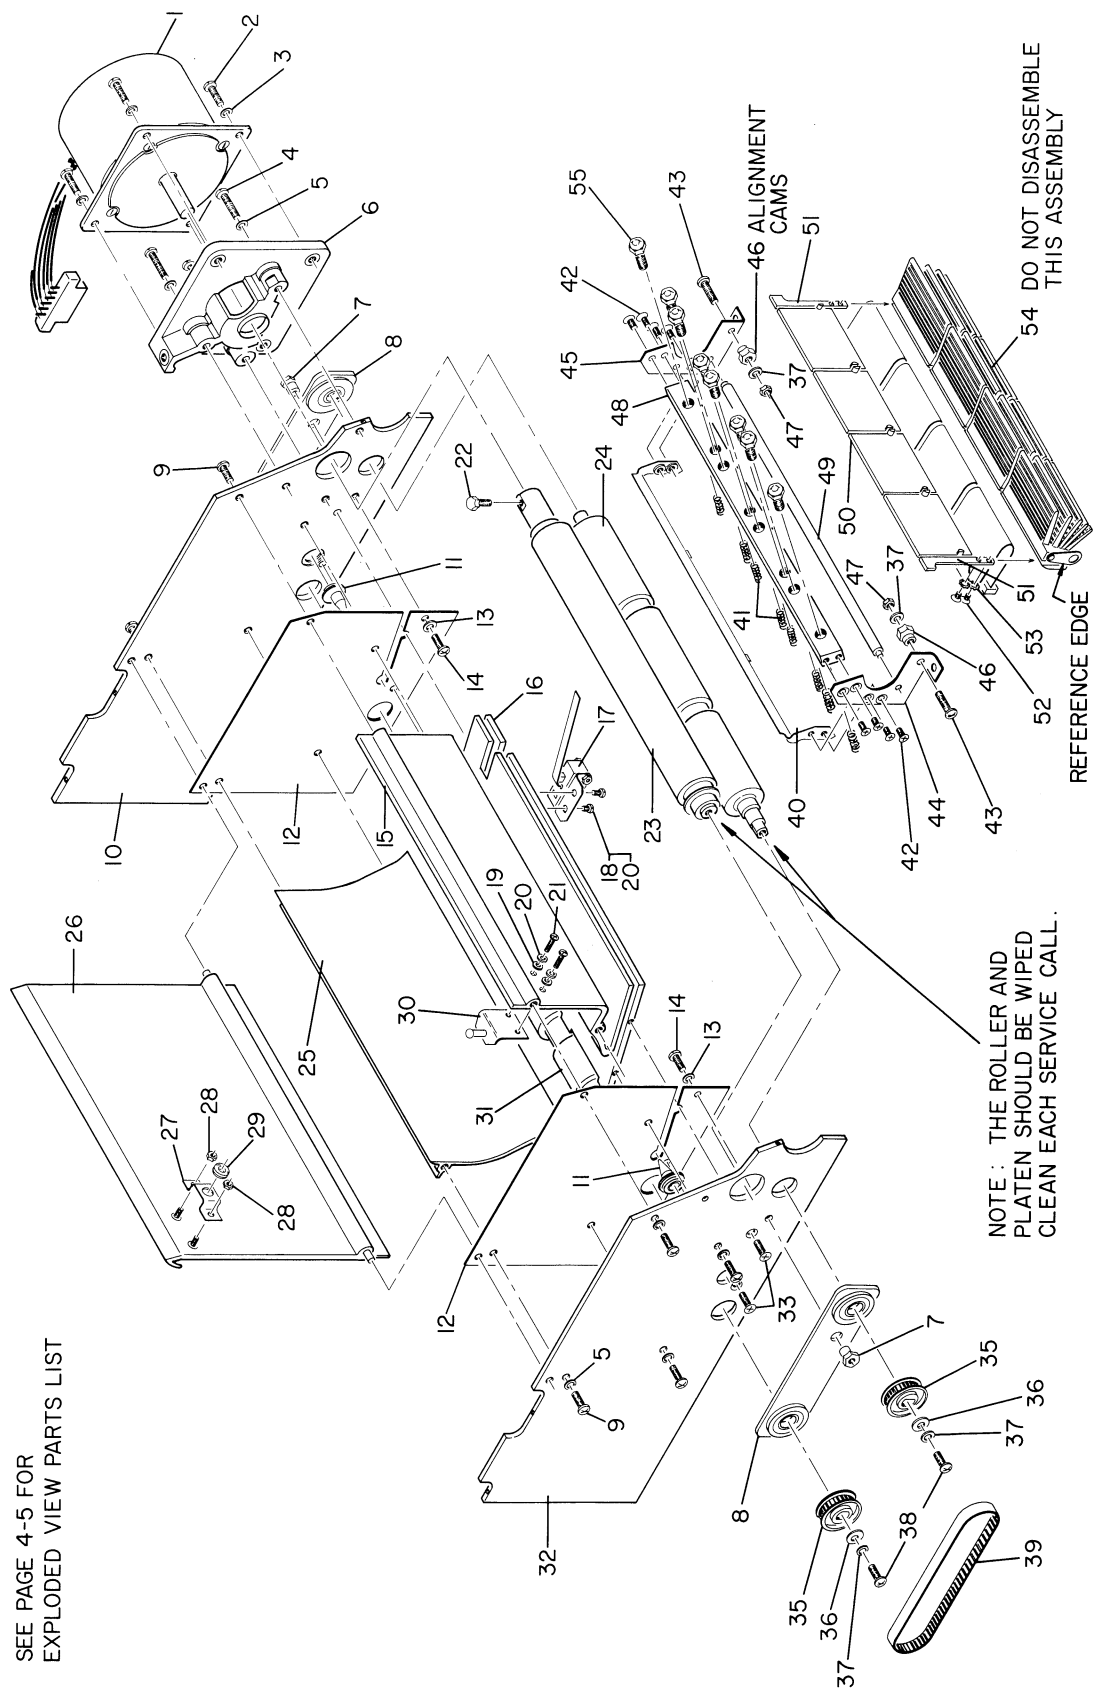

Figure 3-5. 9866 Bucket Assembly
7. Use a brush to clean the reference edge (see Figure 3-5) of the heat sink assembly. Ensure that the reference edge is free from all dirt, grime, or metal burrs (file if necessary). If the reference edge cannot be properly cleaned, replace the heat sink assembly.
8. When the print head(s) is being installed in the print head assembly, be sure that the bottom edge of the head is flush with the reference edge (Figure 3-5).
13. If the print head cannot be properly aligned, recheck steps 7 through 11. If the problem cannot be corrected, use Figure 3-5, the 9866 Bucket Assembly exploded view, to replace the Heat Sink Assembly (A8).
5. While the printer is printing, turn the knob on the fixture until printing is just visible. Then adjust the two alignment cams (see Figure 3-5) for an optimum printout.